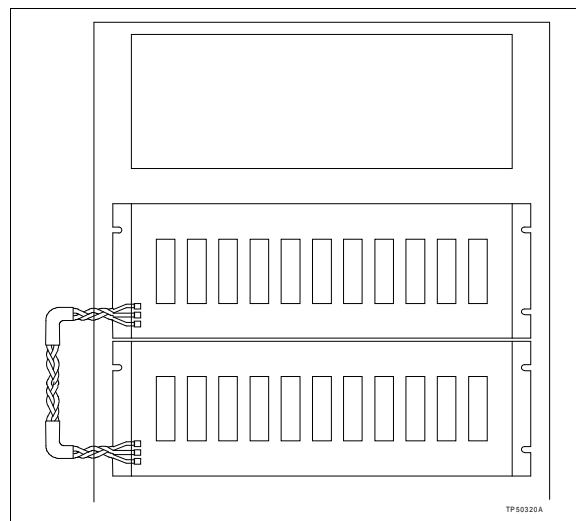

Figure 3-2. Controlway Cable Installation
1. Attach one end of the Controlway or module bus cable (twisted 3-wire) to the bottom three tabs on the lower left of the module mounting unit backplane (facing from behind). See Figure 3-2.